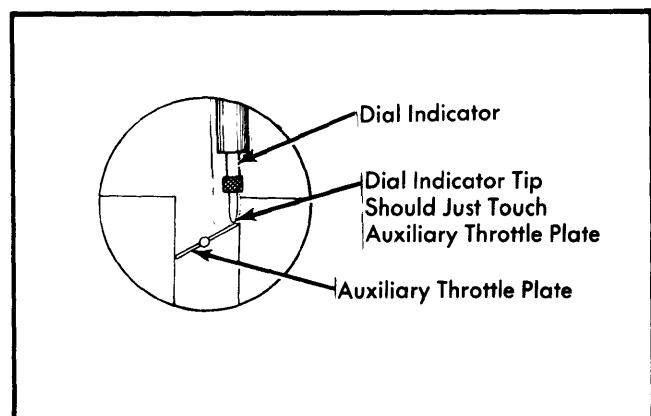
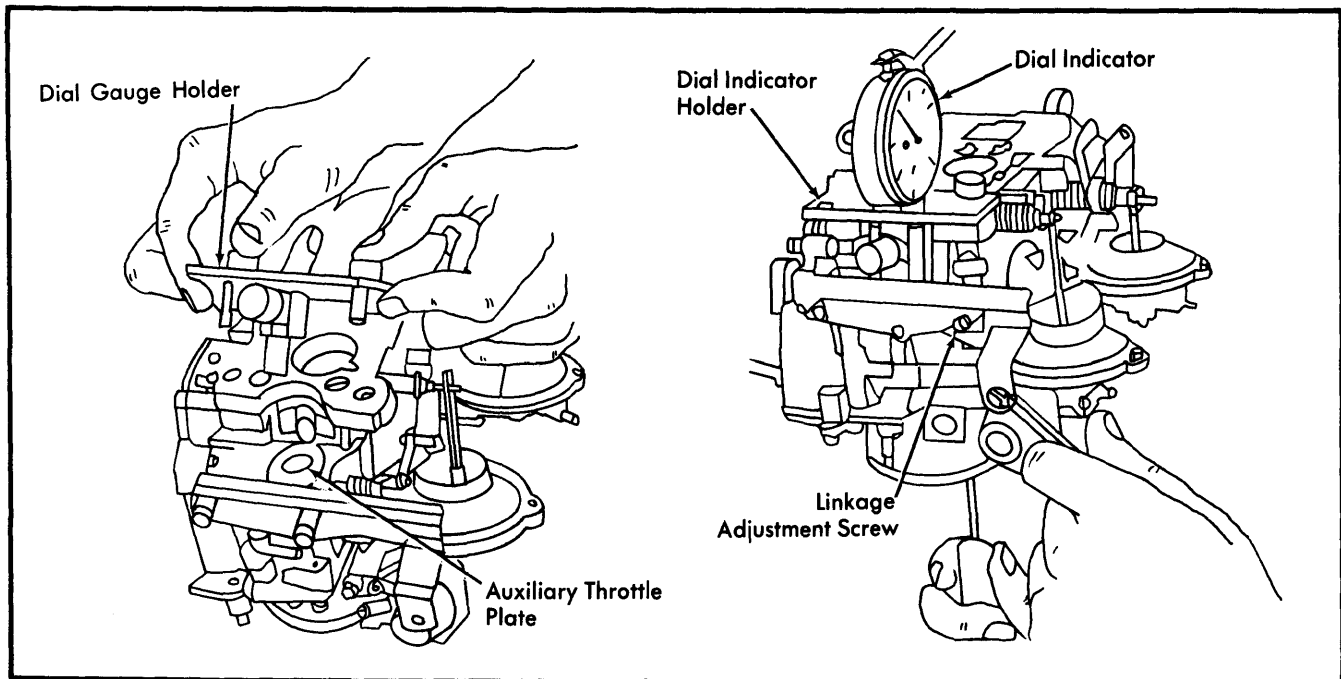

Fig. 6 Positioning Dial Indicator on Throttle Plate
Fig. 8 Lambda Linkage Adjustment With Dial Indicator
1) Back out throttle stop screw. Install dial indicator holder (07974-6570501) then mount dial indicator. See Fig. 6. Loosen linkage adjustment screw lock nut. See Fig. 8.
2) Tighten adjustment screw until primary throttle plate just opens. At this point, set dial indicator to zero. Loosen adjustment screw until dial indicator has a reading of $.004\pm.0004"$ $.10\pm.01$ mm). See Fig. 8.